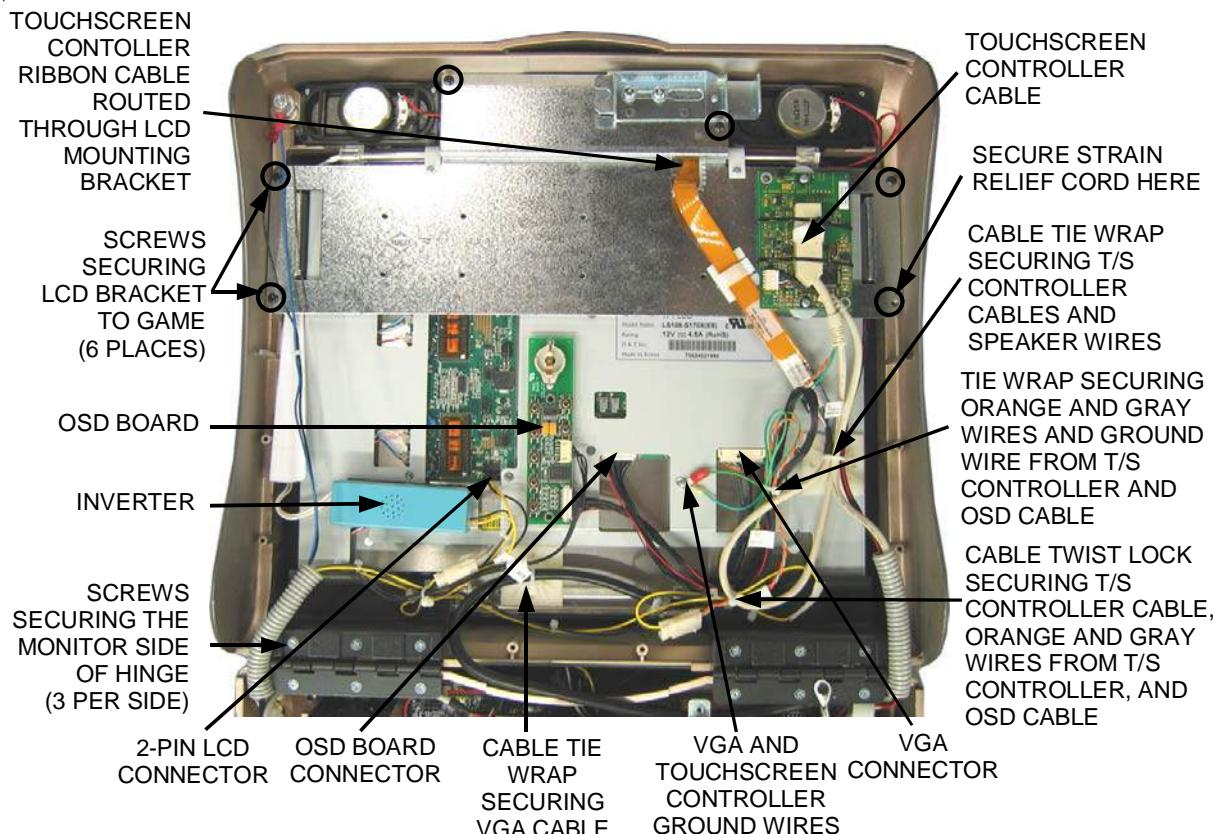

FIGURE 4 – FORESEESON MONITOR IN 17" ION COUNTERTOP GAME
3. *Very carefully* cut the tie wraps securing the touchscreen controller cable to the touchscreen controller. Then, disconnect the cable from the touchscreen controller. See Figure 4.
5. Cut the tie wrap securing the touchscreen controller cables and speaker wires on the back of the monitor (see Figure 4).
6. Cut the tie wrap securing the orange and gray wires and ground wire from the touchscreen controller and the OSD cable. See Figure 4.
7. Remove the touchscreen controller cable, the orange and gray wires (from the touchscreen controller) and the OSD board cable from the cable twist lock. See Figure 4.
9. Disconnect the 2-pin LCD connector, the OSD connector and the VGA connector from the back of the monitor. See Figure 4.
10. Remove the screw and washer securing the VGA and touchscreen controller ground wires to the back of the monitor. See Figure 4.
11. Remove the OSD board and inverter from the Velcro attached to the back side of the monitor and set them aside. See Figure 4.
12. Place something in front of the game to brace the bezel once the strain relief cord is undone, then remove the screw and washer securing the strain relief cord. See Figure 4.
13. Remove the remaining 5 screws fastening the LCD mounting bracket to the game. See Figure 4.
21. Route the touchscreen controller cable through the hole in the LCD mounting bracket (Figure 4).
22. Fasten the strain relief cord under the LCD mounting bracket screw designated in Figure 4. Replace the remaining 5 screws securing the mounting bracket to the bezel. See Figure 4.
23. Tighten the 3 screws per hinge that were loosened during removal of your old monitor. See Figure 4. Make sure the spacers beneath the hinges are aligned correctly as you tighten the screws.
25. Install the 2 existing nylon spacers on the standoffs where the touchscreen controller will be mounted (see Figure 4). If your touchscreen controller did not have nylon spacers, install the 2 provided spacers. Then, secure the touchscreen controller to the standoffs on the LCD mounting bracket using the existing screws.
26. Secure the ribbon cable from the touchscreen controller in the cable clamp on the LCD mounting bracket. See Figure 4.
28. Connect the 2-pin LCD connector to the back of the monitor. See Figure 4.